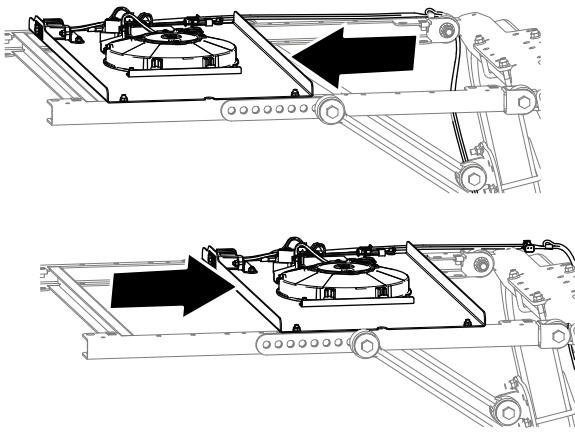

Figure 13
- C. Move the switch panel forward or rearward (Figure 13) to align the cooling fan the position that you determined in step 3.